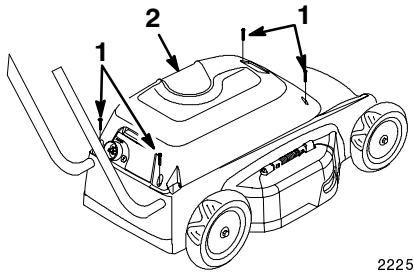

Figure 19
- Remove the top shroud (Fig. 19) and clean out any debris from underneath it with compressed air, a vacuum cleaner, or a brush.